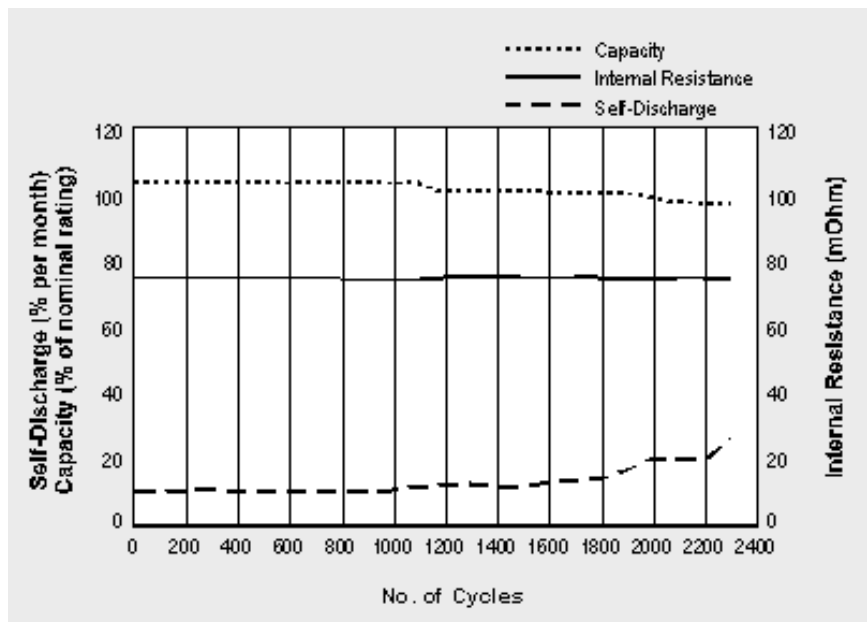

Figure 8-1: Characteristics of a standard cell NiCd battery.
**The NiCd Battery** — In terms of life cycling, the standard NiCd is the most enduring battery. In Figure 8-1 we examine the capacity, internal resistance and self-discharge of a 7.2V, 900mA NiCd battery with standard cells. Due to time constraints, the test was terminated after 2300 cycles. During this period, the capacity remains steady, the internal resistance stays flat at 75mW and the self-discharge is stable. This battery receives a grade 'A' for almost perfect performance.